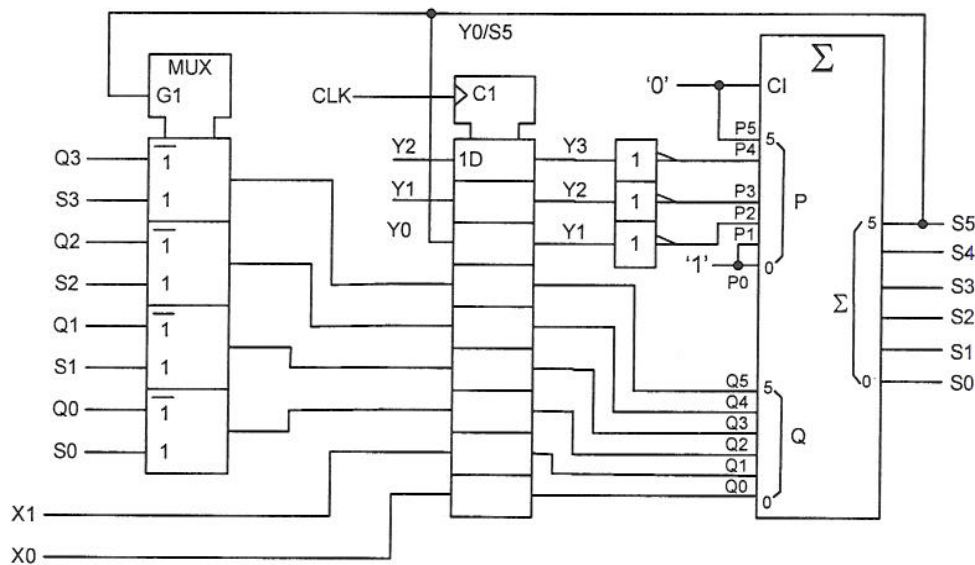

Figure 2.1
2. Figure 2.1 shows a circuit for calculating the square root of an 8-bit unsigned binary number. The circuit consists of a multiplexer, a register and a 6-bit adder. The register is initially cleared, and then, beginning with the two most significant bits, the 8-bit number is applied, two bits at a time, to  $X1:0$  and a clock pulse  $CLK$  is applied to the registers. After four pulses on  $CLK$ , the desired square root is available on  $Y3:0$ .